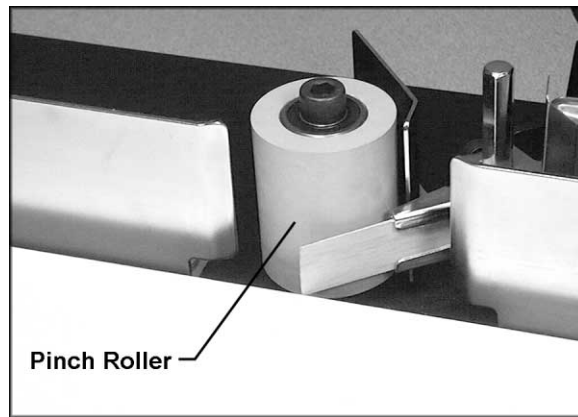

Figure 11
7. As the hot melt adhesive softens at the front end of the banding material, hand feed the banding material up to the crown of the pinch roller, as shown in Figure 11.